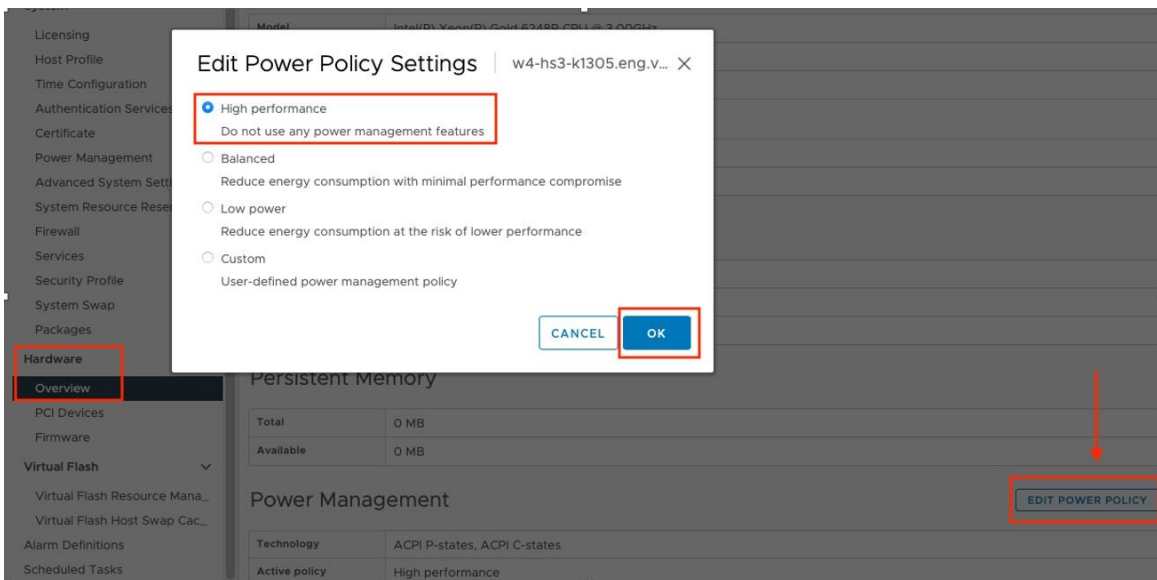

Figure 14: Choose High Performance as the power policy for the ESXi server.
**Best Practice:** In Figure 14, we choose to use **High Performance** in the **Power Policy** by clicking the relevant ESXi server → **Configure** → **Hardware** → **Overview**, scrolling down to **Power Management**, clicking **Edit Power Policy**, and selecting **High Performance**.